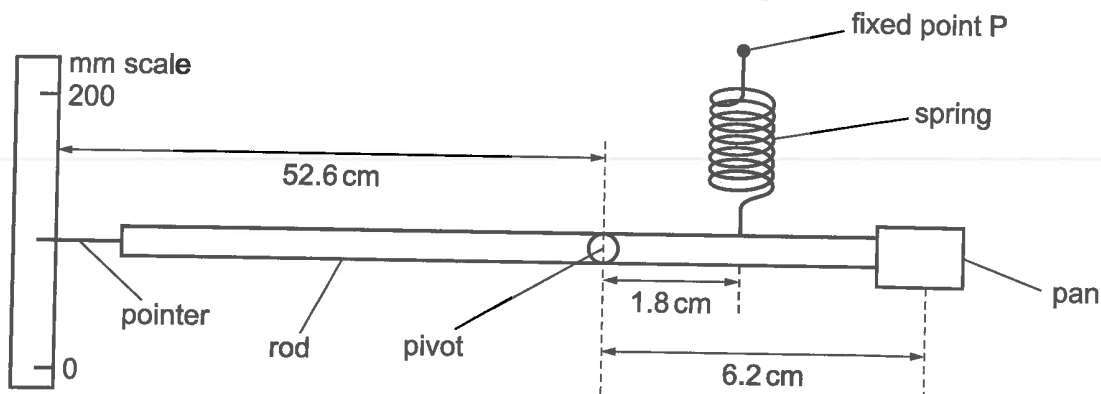

Fig. 3.1 (not to scale)
- (b) Fig. 3.1 shows a type of balance that is used for measuring mass.